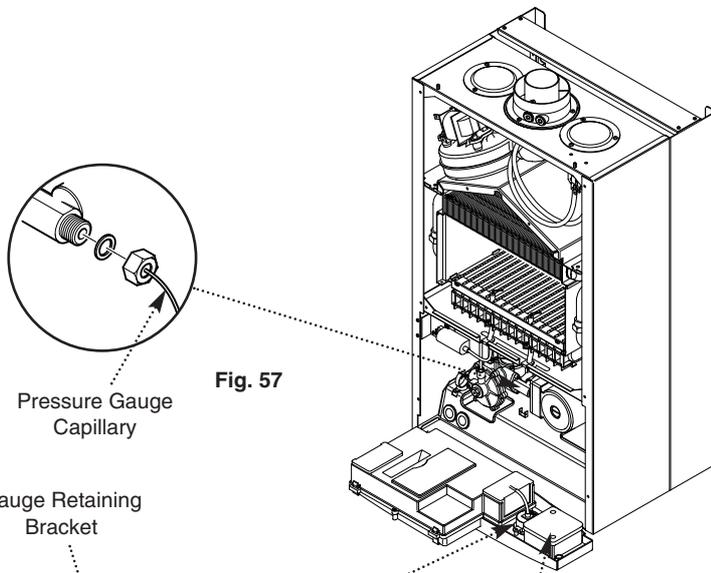

Fig. 57
12.15 Pressure Gauge (Figs. 57 & 58)